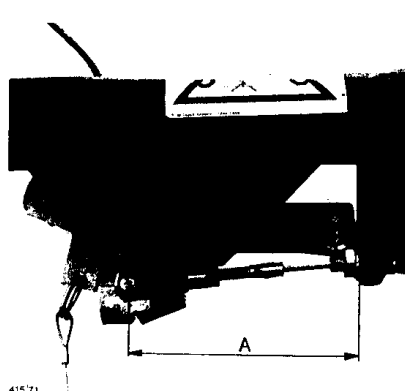

Fig. 14. Detail of brake system
4. Measure the dimension A (Fig. 14). The dimension A should be equal to or lower than 197 mm (7.7 in); if not, the brake mechanism must be readjusted.